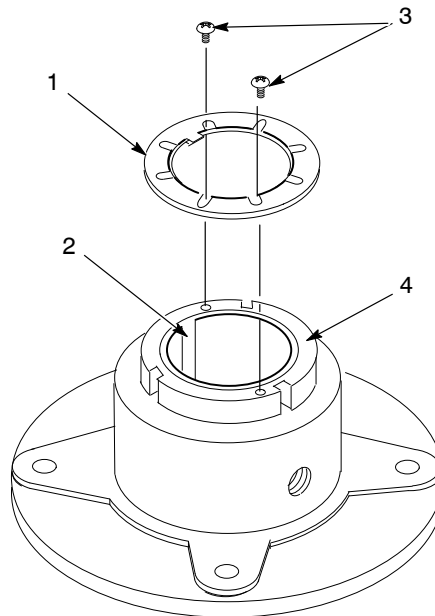

Figure 6-15 New-Style Bearing (part 183906 rev B or higher)
**Excel 2001 New-Style Bearings Only:** Install  $\frac{1}{16}$ -in. shims between the mounting surface and the expansion bearing (17). Do not install shims on the non-expansion bearing (9).
1. Install the new bearings on the supports with the screws (6), washers (7, 12), and nuts (13). Do not tighten the screws. Connect the tubing to the tube fittings (10).
2. Apply a coating of light oil to the shaft (5) where the bearings will be mounted.
**NOTE: Excel 2002 and 2003 New-Style Bearings Only:** Place the lock plate (See Figure 6-15 (1)) on each bearing, but do not install the screws yet.
4. Adjust the non-expansion bearing (9):
- a. See Figure 6-15. Turn the lock nut (4) by hand as tightly as possible. Wear gloves while tightening the lock nut.
- b. Scribe a line on the lock nut at the adapter slot (2). The line and adapter slot will serve as reference points as you tighten the lock nut.
- d. Install the lock plate (1) on the bearing and secure it with the screws (3).